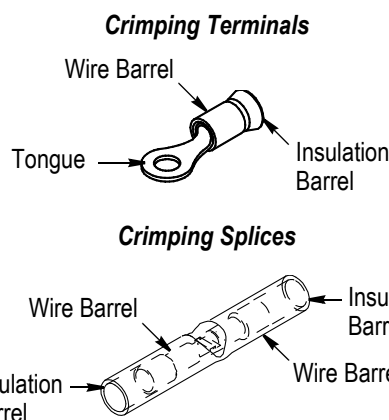

Figure 2
1. Insert the terminal into the RED (22-16) or BLUE (16-14) dot color-coded crimping chamber so that the tongue end of the insulation barrel is 0.76 [.03] from the edge of the jaws, or insert the terminal into the YELLOW (12-10) dot color-coded crimping chamber so that the tongue end of the insulation barrel is 1.59 [.06] from the edge of the jaws. Refer to Figure 2.
1. Insert the terminal in the crimping chamber marked "NON INS". Center the wire barrel in the crimping chamber. Refer to Figure 2.
1. Insert the splice into the RED (22-16), BLUE (16-14), or YELLOW (12-10) dot color-coded crimping chamber so that the center of the insulation barrel is 3.18 [.13] from the edge of the jaws. Refer to Figure 2.
1. Insert the splice in the crimping chamber marked "NON INS". Center the wire barrel in the crimping chamber. Refer to Figure 2.
- Added Figure 2, and Paragraphs 3.4,C and 3.6